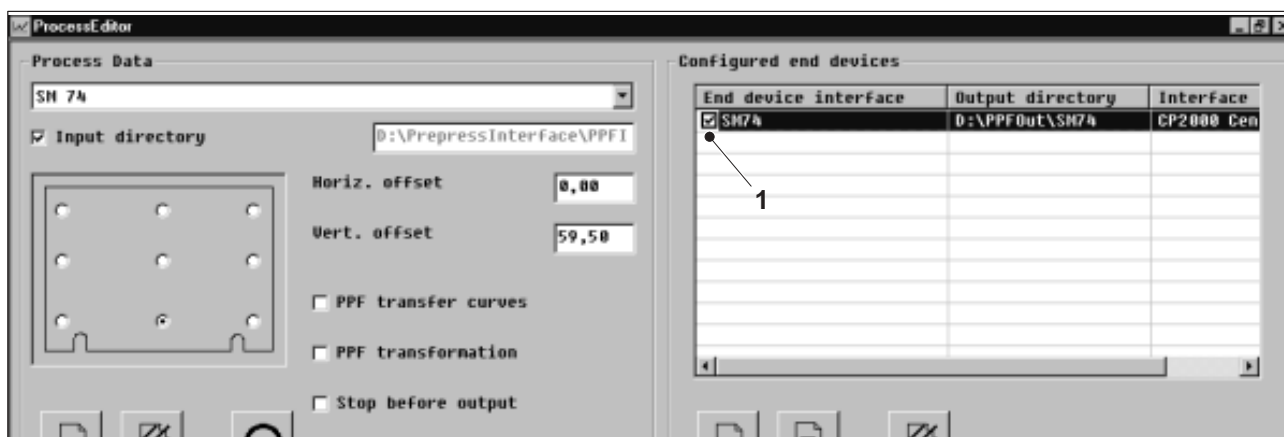

Fig. 13 Activating the end device interface
- 11 Activate the end device interface by clicking on the rectangle (active with tick, Fig. 13/1).